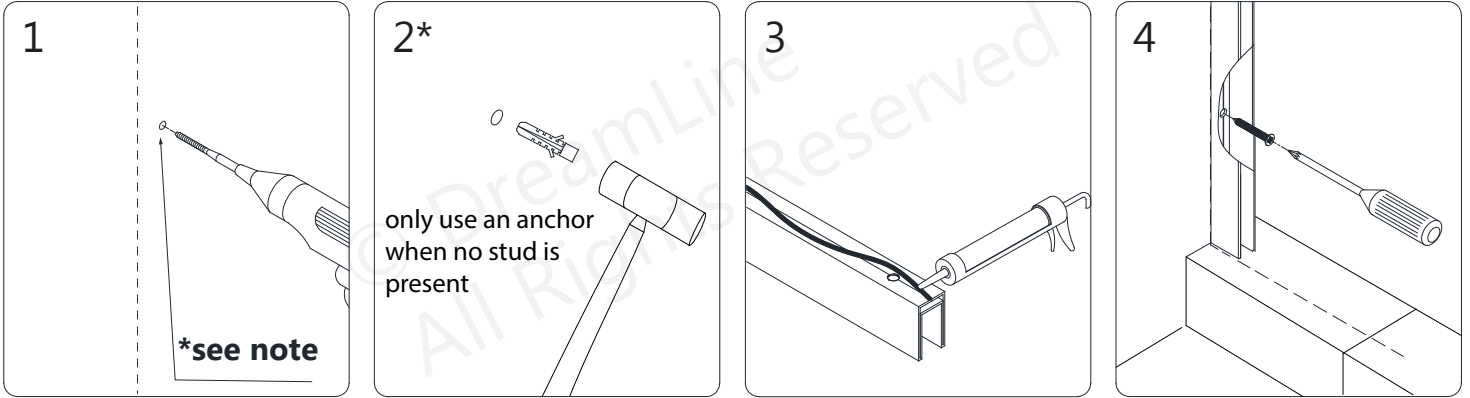

Fig 3
3. If no stud is present behind the wall, drill the holes using a $\text{Ø}5/16''$ drill bit and insert the **Anchors (#14)**. Run a bead of waterproof silicone along the back of the **U-Channel (#01)**. Fasten the **U-Channel (#01)** to the wall using the **ST4.2×40 Pan Head Screws (#13)**. (**Fig 3**)